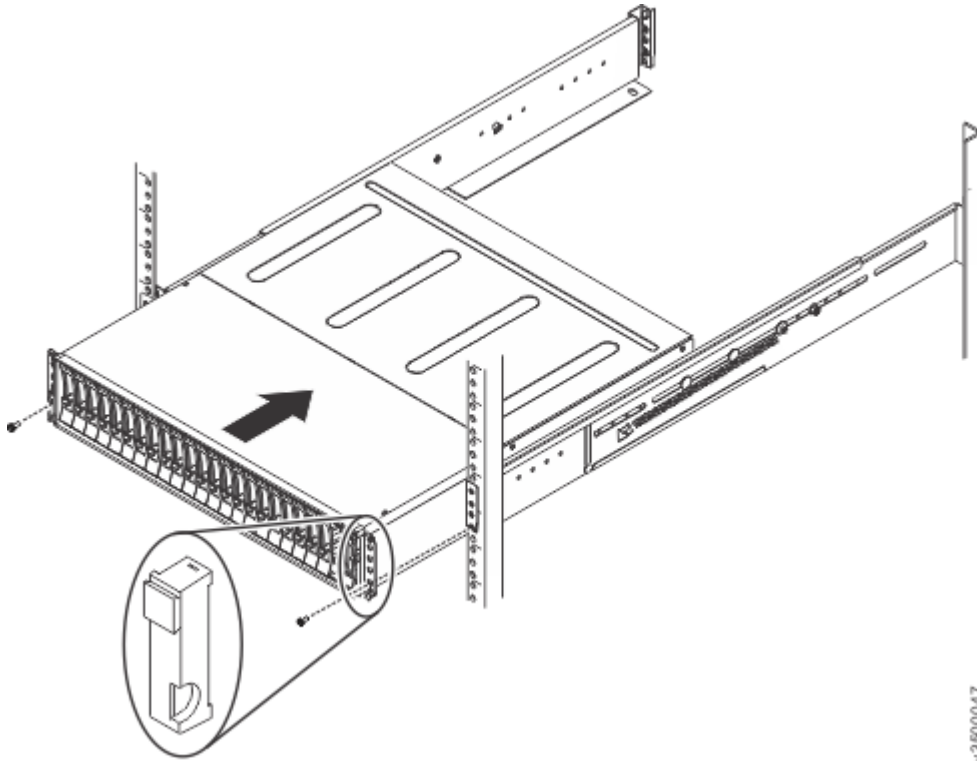

Figure 41. Inserting the enclosure into the rack
3. Carefully slide the enclosure into the rack along the rails until the enclosure is fully inserted (see Figure 41 on page 36).
See Figure 41 on page 36. The left end cap has indicator windows that align with the status LEDs (light-emitting diodes) on the edge of the enclosure.